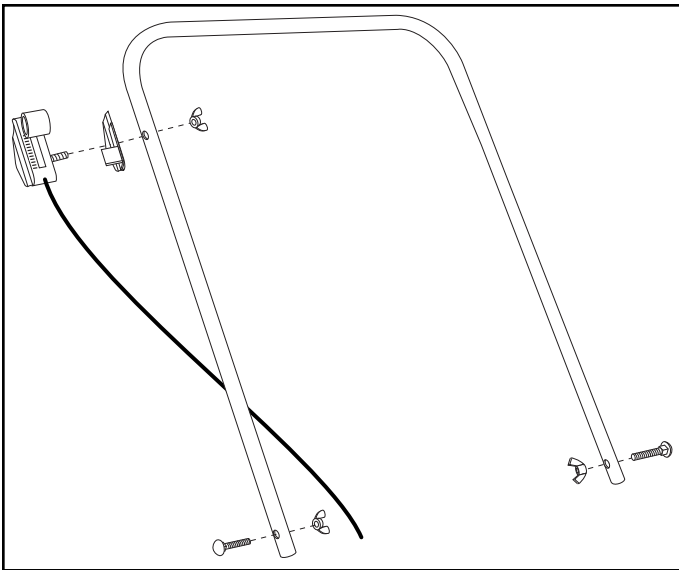

FIGURE 1
1. Assemble the handle tube to the leg tubes using the two 1/4" x 2" carriage bolts and nylon wing nuts. See figure 1.
2. Assemble the Control Cable to the handle tube using a 1/4" x 2" carriage bolt and nylon wing nut. See figure 1.
2. For easiest application, spread across the shortest edges of lawn first, making two "header" strips for a turning area, and then spreading between the header strips. See figure 1.